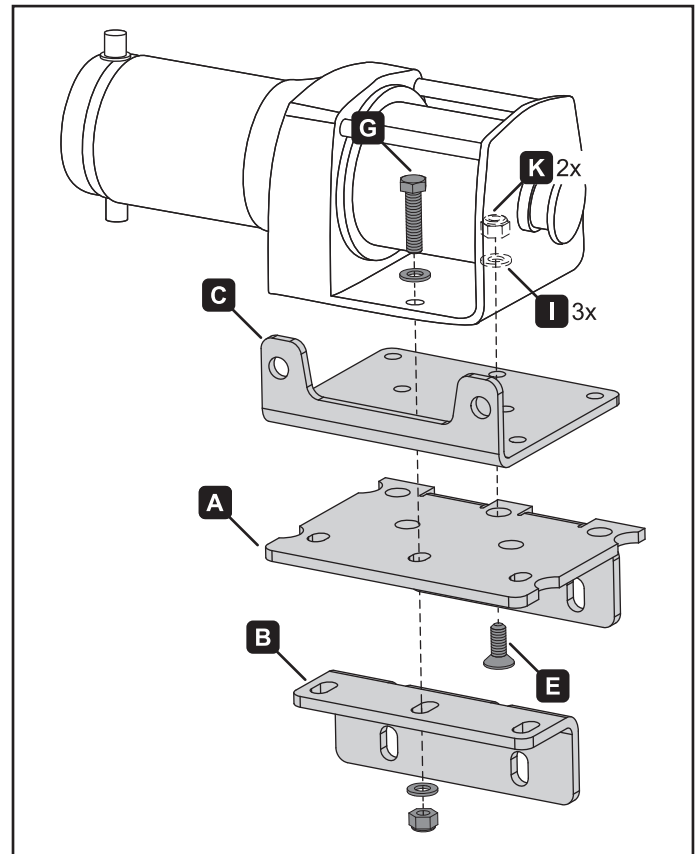

Figure 6. 2-hole winch configuration
2-hole winch: Use support bracket (B), fairlead bracket (C), bolts (E, G), washers (I) and nuts (K) as shown in figure 6.